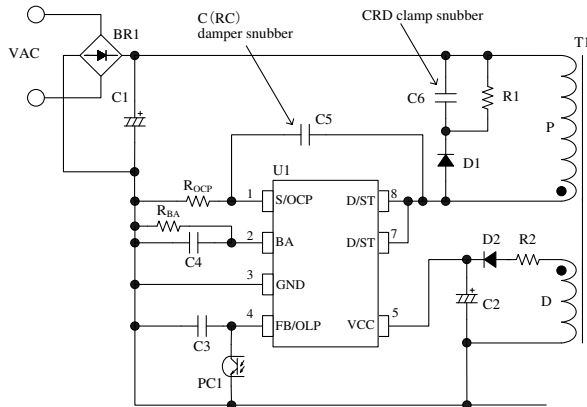

Figure 10-1. The IC Peripheral Circuit
In Figure 10-1, ROCP is the resistor for the current detection. A high frequency switching current flows to ROCP, and may cause poor operation if a high inductance resistor is used. Choose a low inductance and high surge-tolerant type.
- The value of C2 is generally recommended to be 10 μF to 47 μF (see Section 9.1 Startup Operation, because the startup time is determined by the value of C2). In actual power supply circuits, there are cases in which the VCC pin voltage fluctuates in proportion to the output current, IOUT (see Figure 10-1), and the Overvoltage Protection (OVP) on the VCC pin may be activated. This happens because C2 is charged to a peak voltage on the auxiliary winding D, which is caused by the transient surge voltage coupled from the primary winding when the power MOSFET turns off. For alleviating C2 peak charging, it is effective to add some value R2, of several tenths of ohms to several ohms, in series with D2 (see Figure 10-1). The optimal value of R2 should be determined using a transformer matching what will be used in the actual application, because the variation of the auxiliary winding voltage is affected by the transformer structural design.
In case the surge voltage of VDS is large, the circuit should be added as follows (see Figure 10-1);